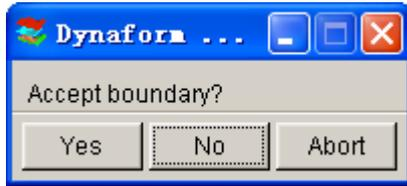
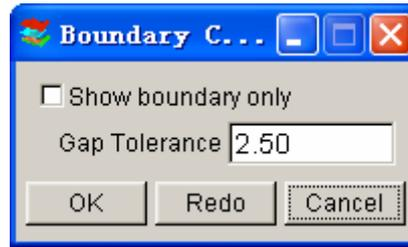

Figure 5.3.6 DYNAFORM Question
Figure 5.3.7 Boundary Check
- After building the topological structures, the DYNAFORM Question window appears. See Figure 5.3.6. Select YES to accept the boundary and continue to the next step. Select NO to display the BOUNDARY CHECK window. See Figure 5.3.7.